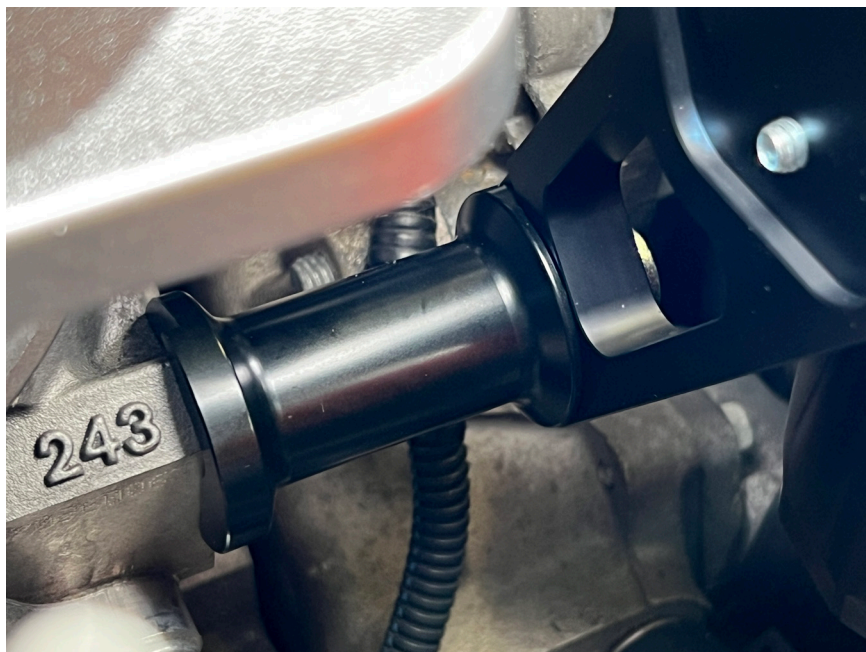

Figure 3 - Bracket & Spacer Mounted to Cylinder Head
4. Install the spacer and bracket onto the cylinder head location shown in Figure 3 using the long socket cap screw provided with the kit.
💡 The bracket and spacer interlock with each other, and to the corner of the cylinder head, shown in Figure 3.